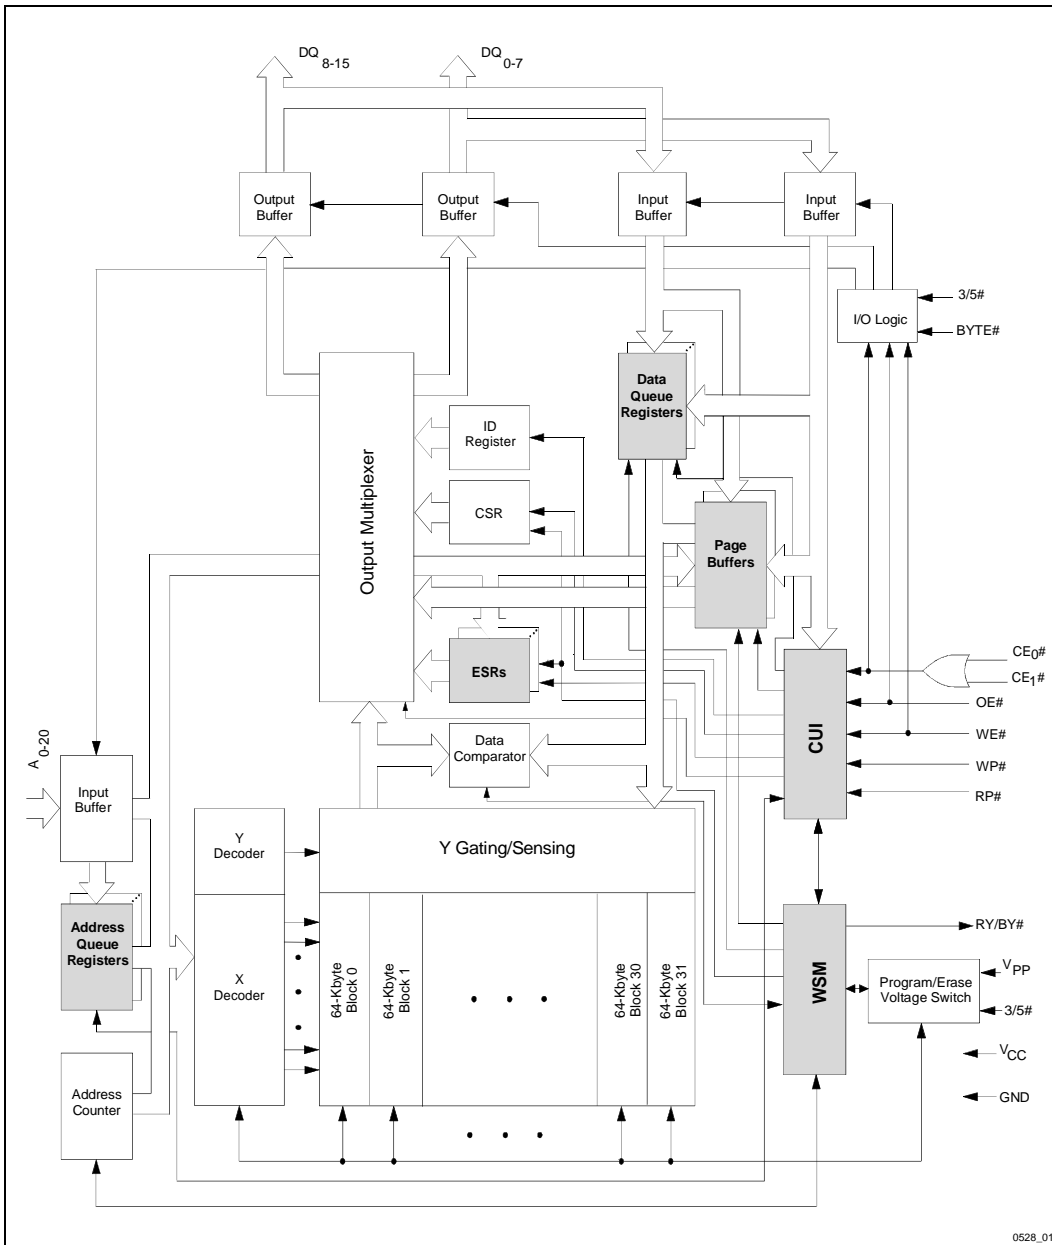
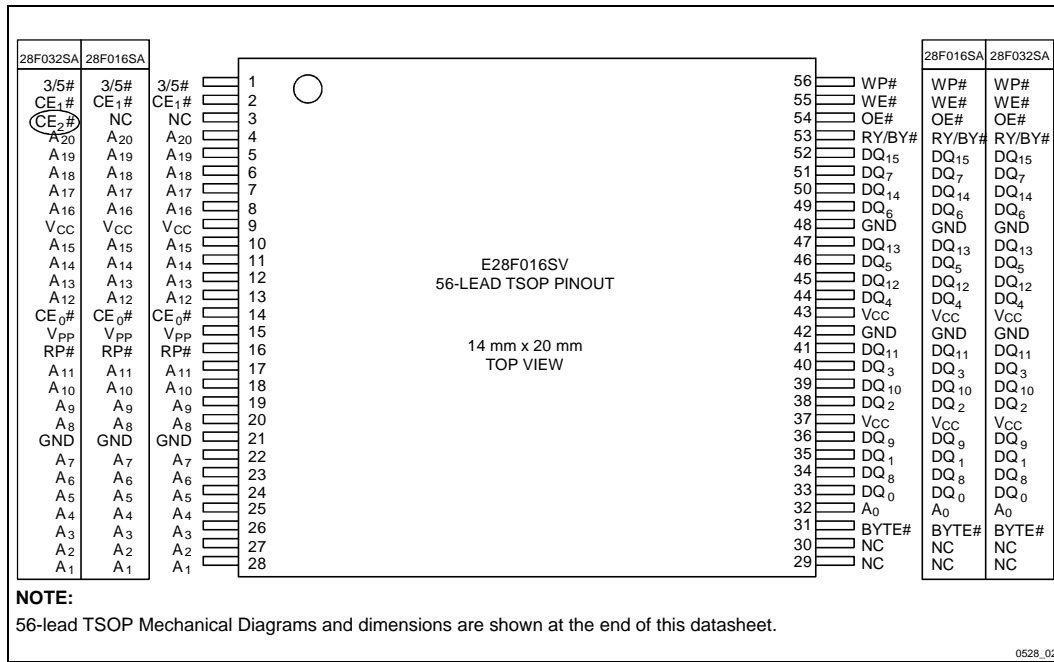

Figure 1. 28F016SV Block Diagram
Figure 2. 28F016SV 56-Lead TSOP Pinout Configuration Shows Compatibility with 28F016SA/28F032SA
-004	<p>Added 3/5# pin to Block Diagram (Figure 1), Pinout Configurations (Figures 2 and 3), Product Overview (Section 1.1) and Lead Descriptions (Section 2.1)</p> <p>Added 3/5# pin to Test Conditions of ICCS Specifications</p> <p>Added 3/5# pin (Y) to Timing Nomenclature (Section 5.5)</p> <p>Increased t_{PHQV} Specifications at 5V V_{CC} to 400 ns for E28F016SV 065 devices and 480 ns for E28F106SV 070 devices.</p> <p>Modified Power-Up and Reset Timings (Section 5.9) to include 3/5# pin: Removed t_{5VPH} and t_{3VPH} specifications; Added t_{PLYL}, t_{PLYH}, t_{YLPH}, and t_{YHPH} specifications</p> <p>Added t_{PHEL3} and t_{PHEL5} specifications to Power-Up and Reset Timings (Section 5.9)</p> <p>Corrected TSOP Mechanical Specification A_1 from 0.50 mm to 0.050 mm (Section 6.0)</p> <p>Corrected SSOP Mechanical Spec. B (max) from 0.20 mm to 0.40 mm (Section 6.0)</p> <p>Minor cosmetic changes throughout document.</p>
A significant 28F016SV change occurred between datasheet revisions 290528-003 and 290528-004. This change centers around the addition of a 3/5# pin to the device's pinout configuration. Figures 2 and 3 show the 3/5# pin assignment for TSOP and SSOP Type 1 packages. Intel recommends that all customers obtain the latest revisions of 28F016SV documentation.
order address and address A_0 is not used (don't care). A device block diagram is shown in Figure 1.
The 28F016SV 56-lead TSOP and 56-lead SSOP Type I pinout configurations are shown in Figures 2 and 3.